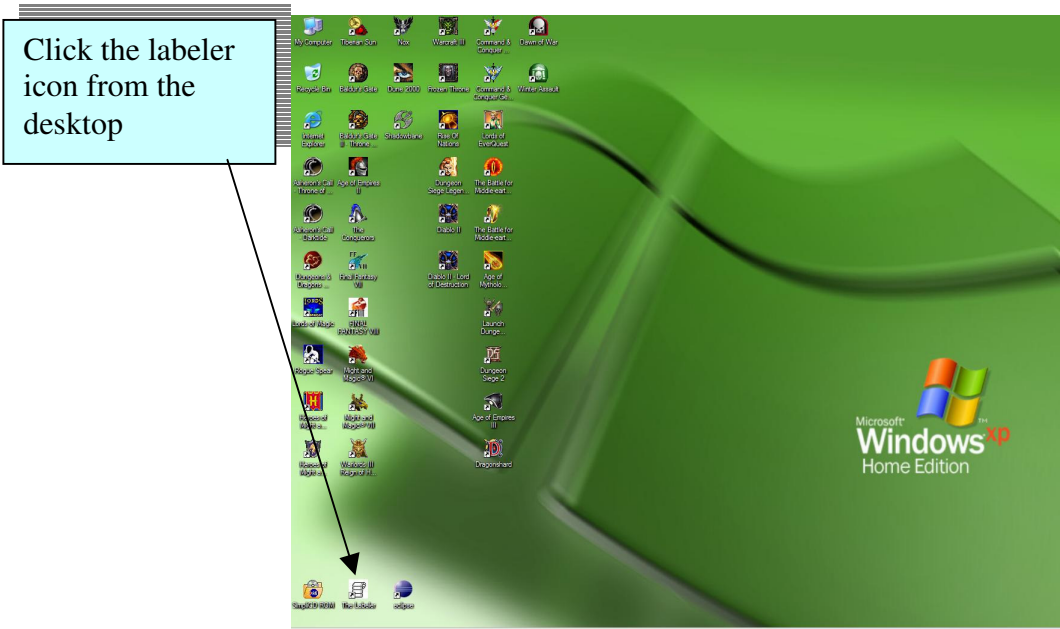

Figure 2.2.1: Desktop Screen
- 1. Select the labeler icon **The Labeler** from the desktop (see Figure 2.2.1).